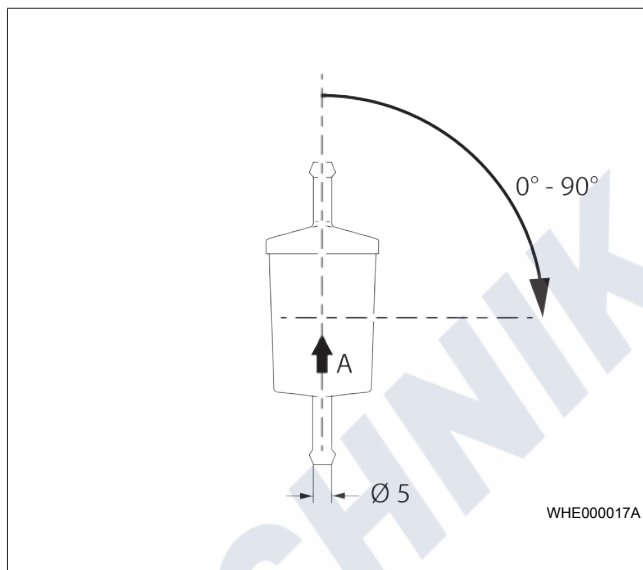

Fig. 13 Permissible installation position of fuel filter
- ▶ Ensure the correct installation position. Pay attention to the direction of flow of the fuel (arrow) in Fig. 13.